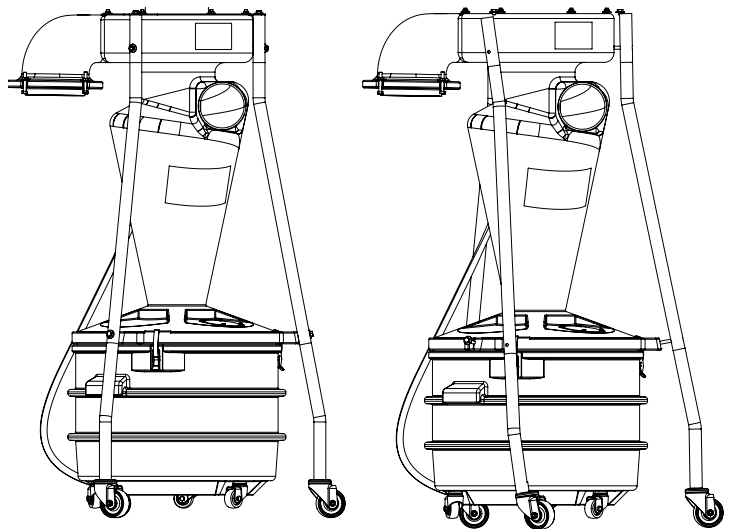

FIG. 5
- 5** Align the legs so that they are square and even with the drum and body. [FIG. 5]
*Note: Hardware attaching the Legs (C8) to the Molded cyclone and Drum (C1) should be finger tightened to help align the Motor Assembly (A) in Step 10.*